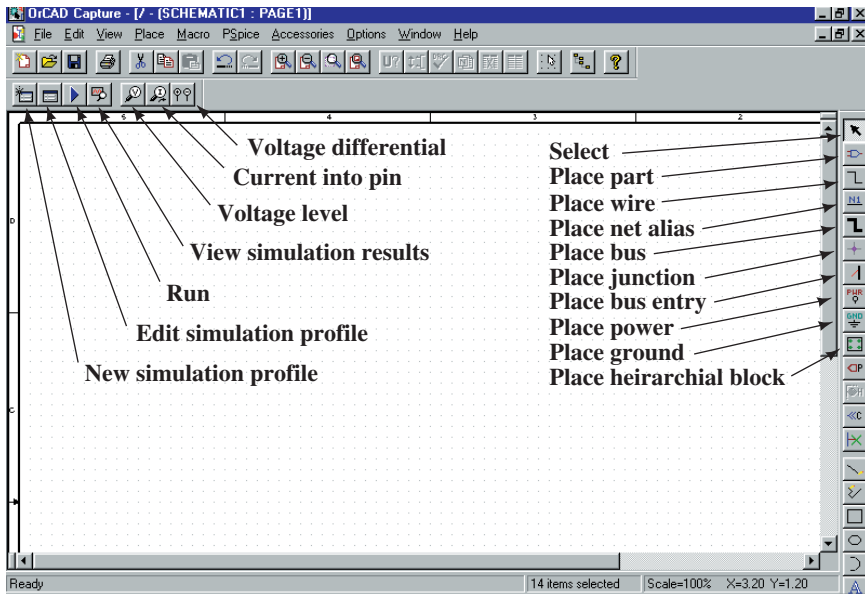

FIGURE A-2 Tool Palette
2. Click anywhere in the grid of the schematic page editor. You will observe that a *tool palette* has been provided as part of the editor. The tool palette allows you to select various tools with which to create a schematic page. This palette is easily moved and resized by placing the cursor at the top of the palette and dragging it (using the left mouse button) to a new location. Figure A-2 shows the tool palette and the corresponding button functions as well as other tools that are used to simplify simulation and viewing of the circuit characteristics.